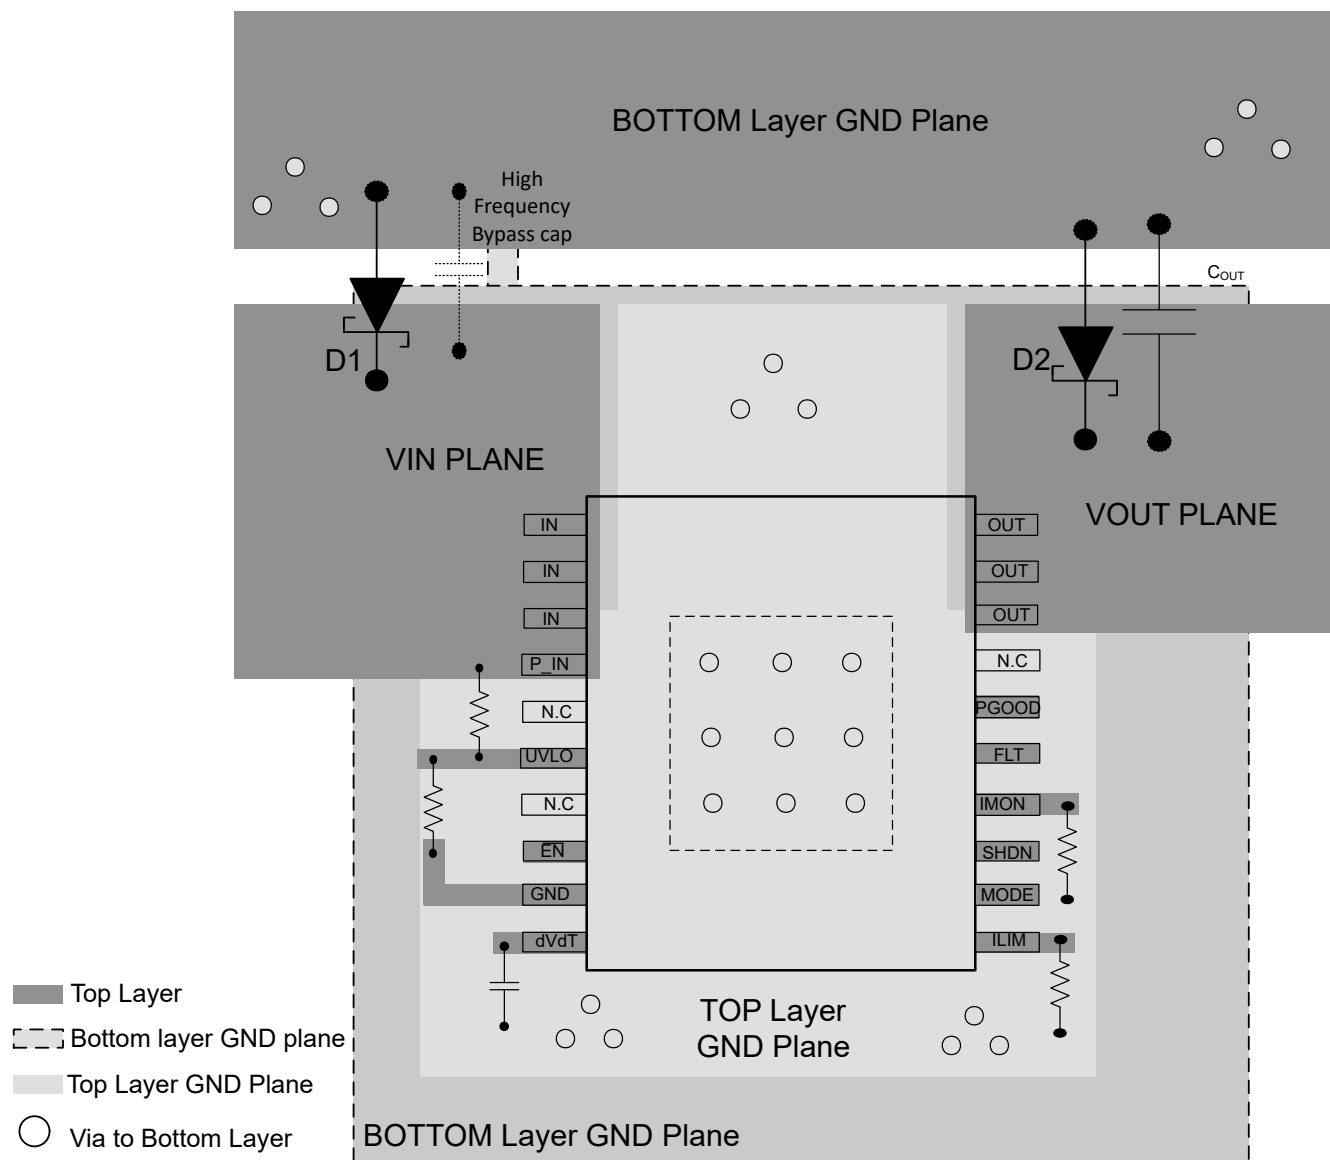

FIG 11-2. Typical PCB Layout Example With HTSSOP Package With a 2-Layer PCB
- High current carrying power path connections must be as short as possible and must be sized to carry at least twice the full-load current. See Figure 11-1 and Figure 11-2 for a typical PCB layout example.